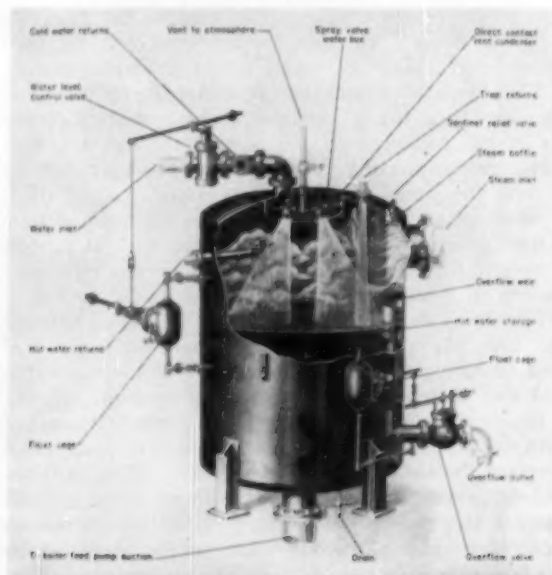

Fig. 6—Spray Type open heater removes less oxygen than the reboiling design, Fig. 5, but costs less. It works well for low pressure boilers
**Open Heater.** The spray type open heater, Fig. 6, is not as efficient for oxygen removal as a deaerating heater since this unit does not incorporate the deaerating scrubber section. The water is sprayed through stainless steel spray valves into a steam atmosphere, as in the case of a deaerating heater, but this heated and partially deaerated water is then delivered directly to the boiler feed pump suction. The water is heated to within one degree to three degrees of the steam temperature, and the oxygen is reduced to 0.1 to 0.3 ml per liter.